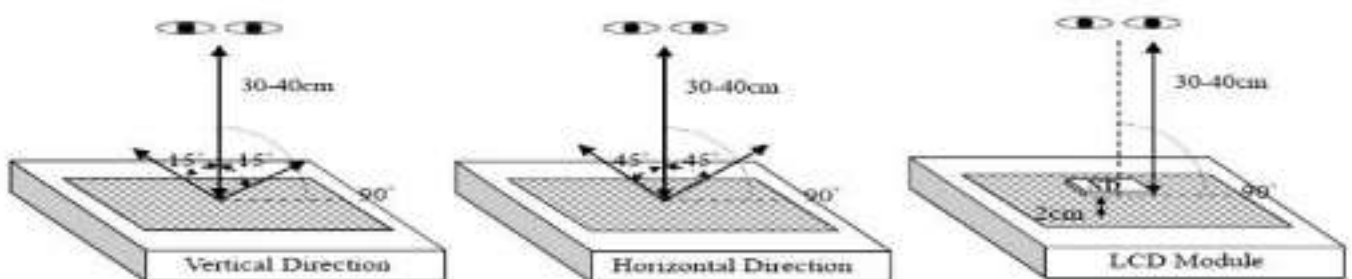

Fig. 1
(4) The viewing angle:
(5) Display panel shall be conducted at the distance 30~40cm between the LCD module and eyes of inspector (Fig. 1)